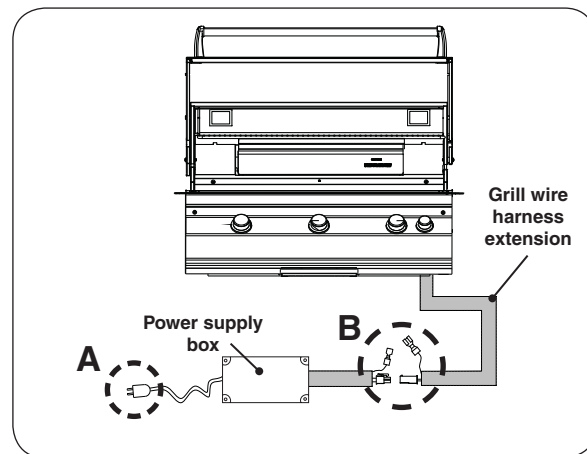

Fig. 17-2 Disconnect grill connections
- Locate the power supply box inside of the island enclosure and disconnect the power cord (See Fig. 17-2, **A**).
- Disconnect the grill wire harness extension connectors from the power supply connectors. See Fig. 17-2, (**B**)